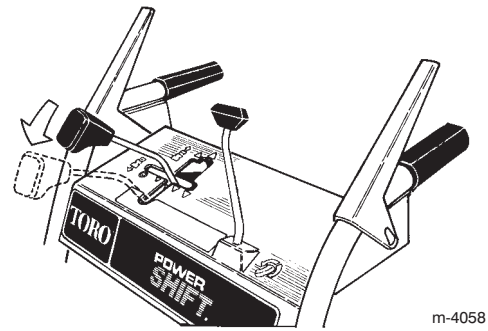

Figure 11
8. Manually move the wheels to the **rear Power Shift** position by lifting up on the handgrips and moving the shift control fully forward (Fig. 11).